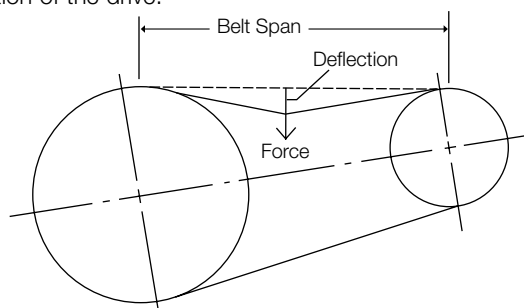

Figure 11
- Step 1. Install the belt as per Steps 1 and 2 of the General Method. Measure the span length (in inches) as illustrated in Figure 11.
- Step 2. From Figure 11 determine the deflection height required for the drive. The deflection height is always 1/64" per inch of span length. For example, a 32" span length requires a deflection of 32/64" or 1/2". To measure the deflection height place a straightedge from sprocket to sprocket on top of the belt or wrap a string or steel tape around the sprockets on top of the belt. This will serve as a reference line to measure deflection inches.